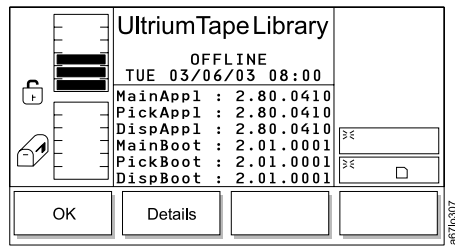

Figure 356. Detail Dialog
3. To view the library's current application and boot code for the picker, drive sleds, main board, and display, press the button below the **Details** softkey. The Detail Dialog displays (see Figure 356 on page 231). Continue to press the button below the **Details** softkey until all details have displayed.